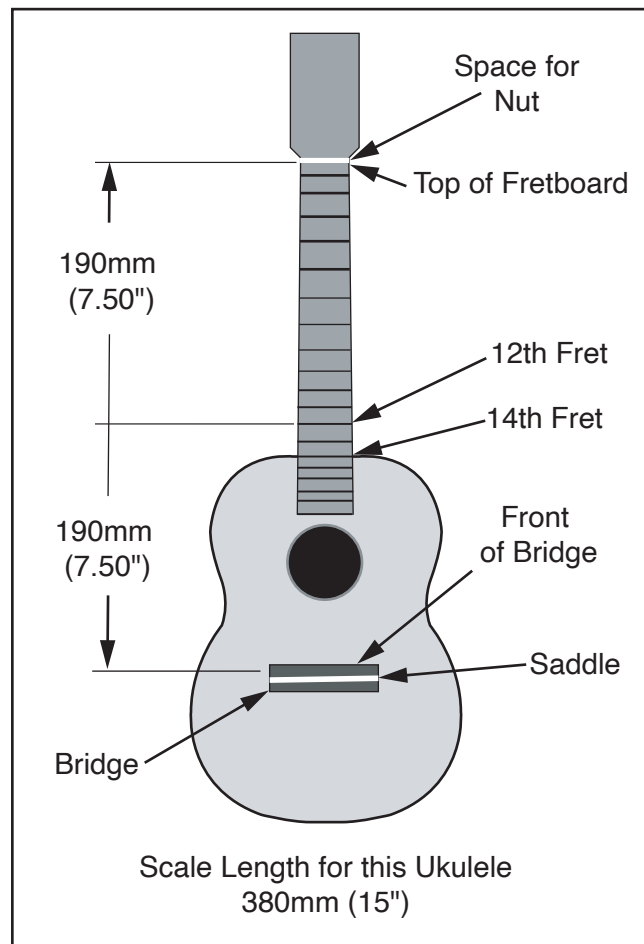

Figure 13. Example of determining scale length and bridge positioning.
1. Measure from top of fretboard to center of 12th fret. Measurement should be 190mm (7.50") (see **Figure 13**).
4. Position bridge so front will be 190mm (7.50") from center of 12th fret (see **Figure 13**).